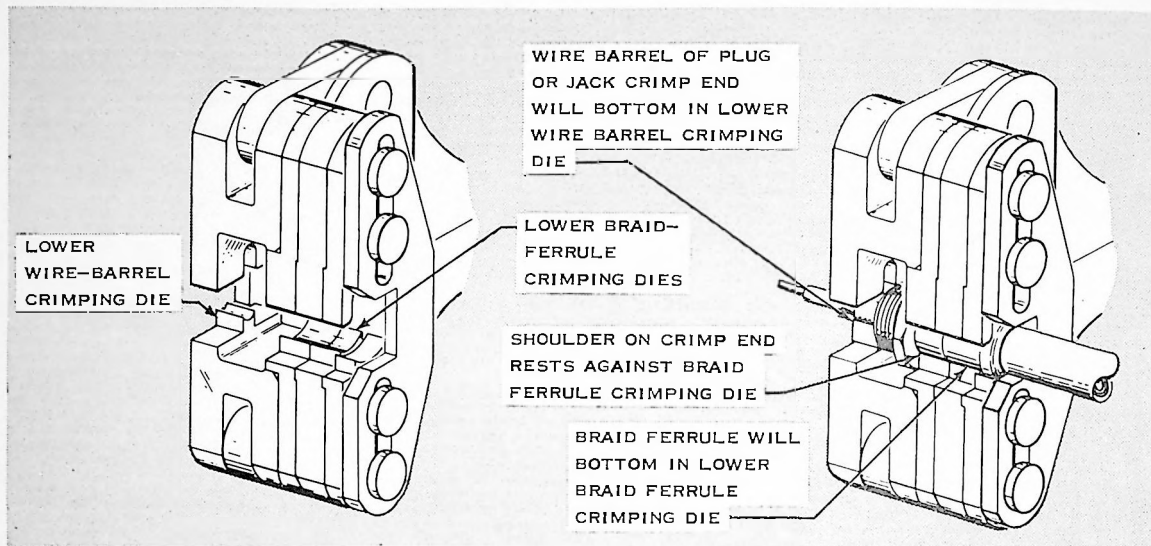

FIG. 5
- (a) To open Tool Handles, close Handles until CERTI-CRIMP Ratchet, see Figure 5, releases. Note that once Ratchet is engaged, the Handles cannot be opened until they are fully closed.
- (b) The Crimping Tool has multiple sets of Dies, see Figure 5, to crimp the Braid Ferrule and Wire Barrel of Jack or Plug Crimp End. Ferrule and Wire Barrel are crimped at the same time.
- (c) Place the Jack or Plug Crimp End in Crimping Dies as shown in Figure 5.
- (e) Braid Ferrule should be bottomed against the Lower Braid Ferrule Crimping Die with Shoulder on Plug or Jack Crimp End resting against Die. See Figure 5.